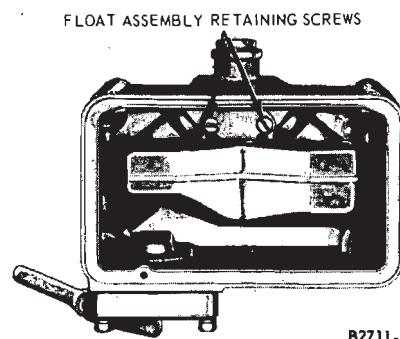

FIG. 12—Float Assembly Removal or Installation
6. Remove the screws securing the float assembly to the fuel bowl (Fig. 12). Remove the float assembly.